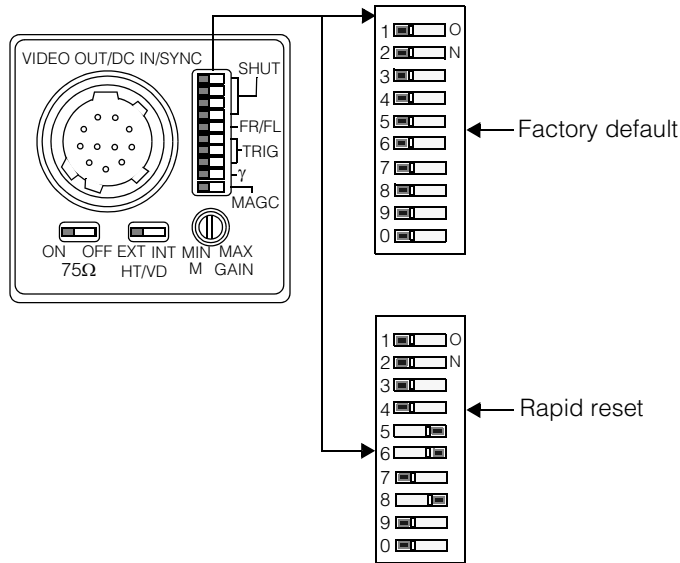

Figure 61. Sony XC-ES50 camera back panel
Figure 61 shows the back panel of the Sony XC-ES50 camera with the switches in their factory default and rapid reset modes.
1. Configure the 10-position DIP switch as shown in Figure 61.